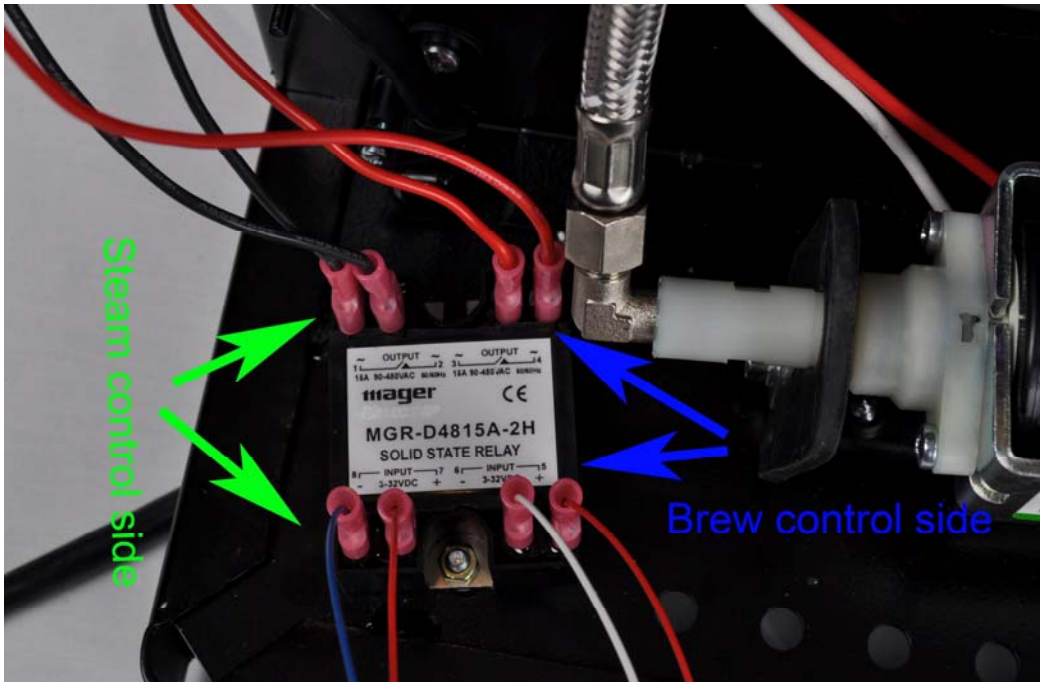

Figure 17. Connection of the cables to SSR
- 1) Connecting the cables to SSR as shown in Figure 17. The left side is for steam temperature control. The two black cables are connected to the output. The blue cable is connected to the negative of the input. Red cable is connected to the positive of the input. The right side is for the brew temperature control. The two red thick cables are connected to the output. The white cable is connected to the negative of the input. Red cable is connected to the positive of the input.